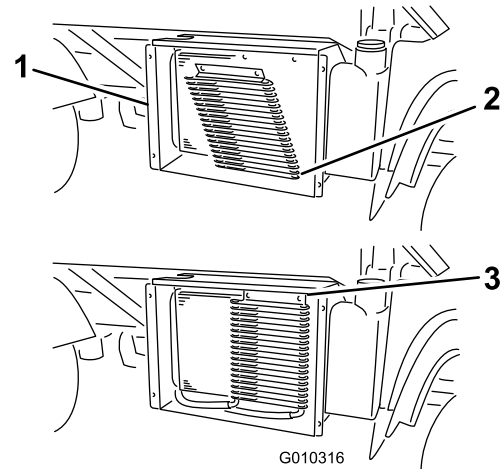

Figure 13
1. Insert the cooler-mounting tabs into the slots below the radiator (Figure 13).
2. Rotate the cooler up and fasten the top of the cooler with the 1/4-turn fasteners on the radiator (Figure 13).